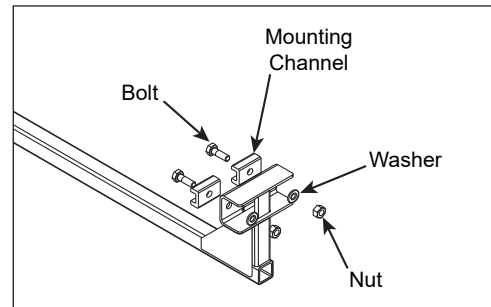

Figure 23: Fixed Webcam Arm Mounting
1. The webcam arm ships with all hardware and arm components. Remove the $\frac{5}{8}$ " nuts and washers from the arm assembly before installing the webcam arm. Refer to **Figure 23**.